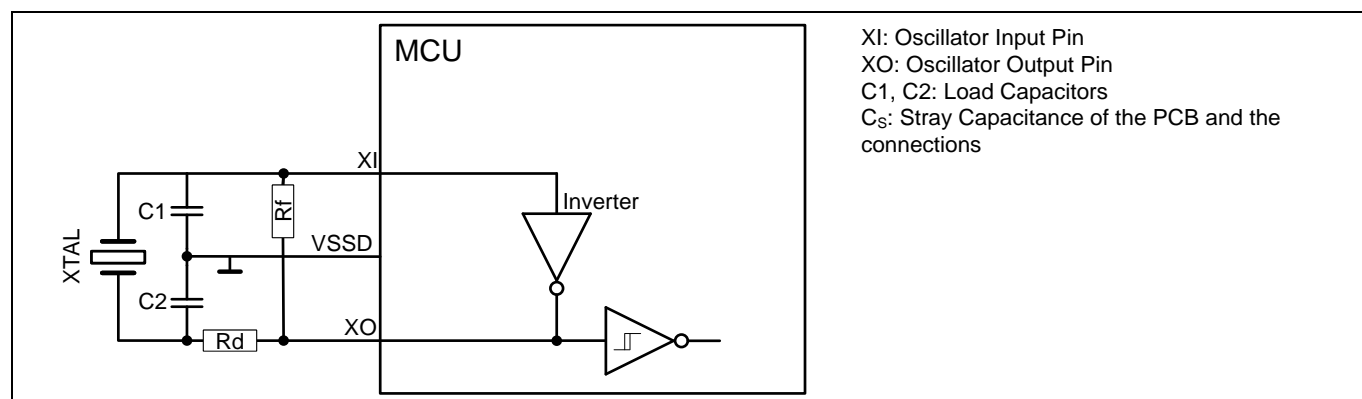
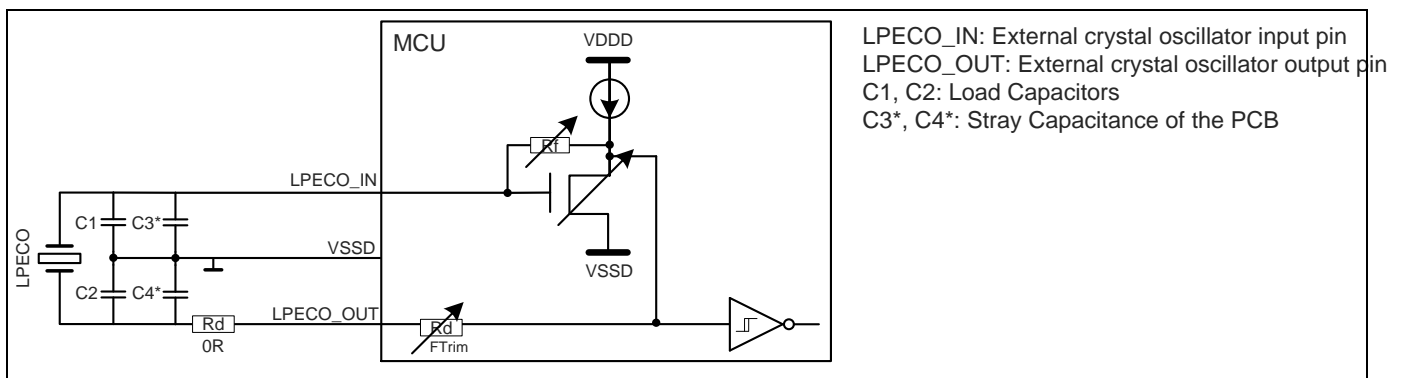

Figure 36 Principle setup of an external oscillator circuit
Figure 39 LPECO circuit scheme⁷
Note: Figure 36 to Figure 39 showing the implementation of oscillators in the MCU family and the trimming features discussed in this application note might differ from the dedicated device architecture TRM. Due to different trimming features, the external BOM cost can be reduced in the ECU design.
Figure 36 shows the principle of an external oscillator circuit. The feedback resistor (R_f) is required to act is necessary for the inverter to act as amplifier. Optionally, a damping resistor (R_d) is required for drive level (DL) reduction. If the DL is too strong, the crystal can be damaged over the life time. The load capacitance C_L is the
The LPECO design is optimized for BOM cost reduction (see **Figure 39**). This is realized by a scalable DL and an embedded R_f implementation.